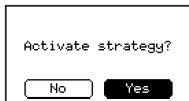

fig. 13: Activate strategy
3. Activate the strategy by pressing yes. (fig. 13)